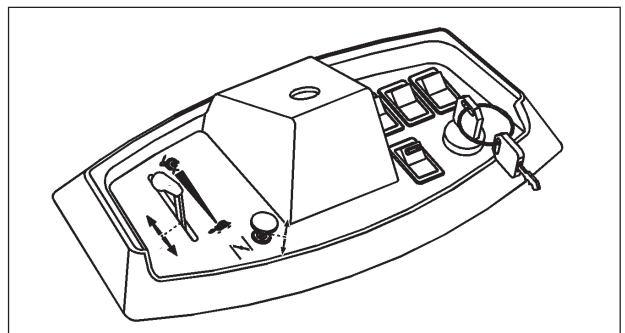

Fig. 17
7. After starting the engine slide the choke control to slow position and set the engine speed by the throttle lever (Fig. 17).
When the pedal is fully depressed, the brake is applied. Then, place the throttle lever at the "turtle" idle position (fig. 17).